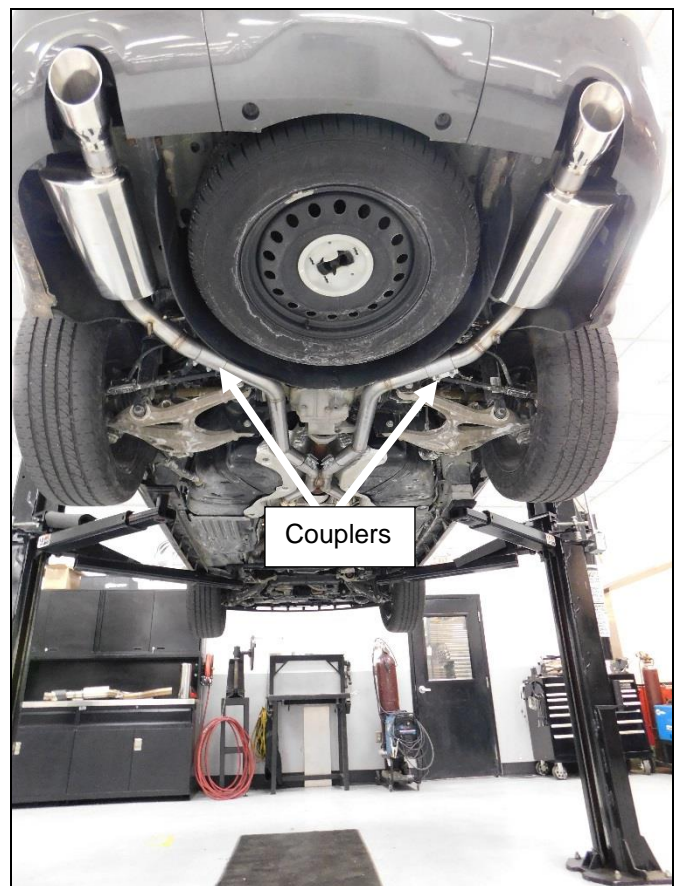

Figure 4
4. Install a supplied 2.5" coupler on to the outlet of the left and right mid pipes. Align the clamp with the bolts to the outside and the nuts facing down (**Figure 4**). Support the X-pipe while the mufflers are installed.
5. Install the right muffler assembly on to the mid pipe. Rotate the muffler into position and install the isolator bushings on to the muffler hanger rods. Slide the coupler over the muffler inlet tube for a 50/50 split between the mid pipe and the muffler inlet pipe. Tighten the clamp to allow for adjustment (**Figure 4**).
6. Install the left muffler assembly on to the mid pipe. Rotate the muffler into position and install the isolator bushings on to the muffler hanger rods. Slide the coupler over the muffler inlet tube for a 50/50 split between the mid pipe and the muffler inlet pipe. Tighten the clamp to allow for adjustment (**Figure 4**).